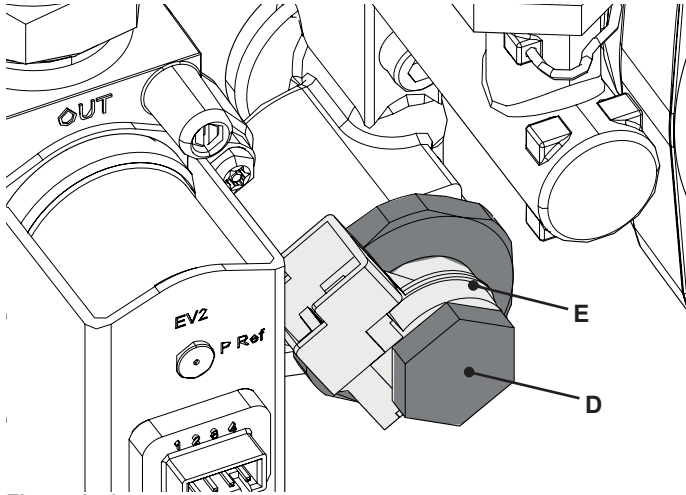

Figure 14.6
- 3 Remove the sensor holder "E" and unscrew the flow switch plug "D" (Figure 14.6).